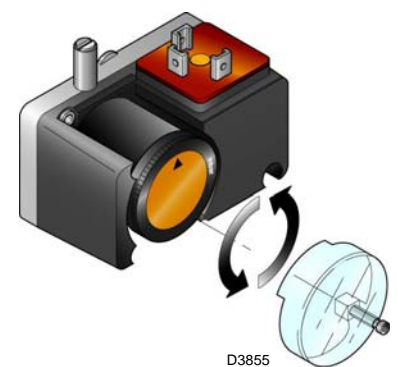

Fig. 34
- Adjust the minimum gas pressure switch (Fig. 34 at page 32) to the start of the scale.
Adjust the minimum gas pressure switch (Fig. 34) after having performed all other burner adjustments with the pressure switch set to the start of the scale.